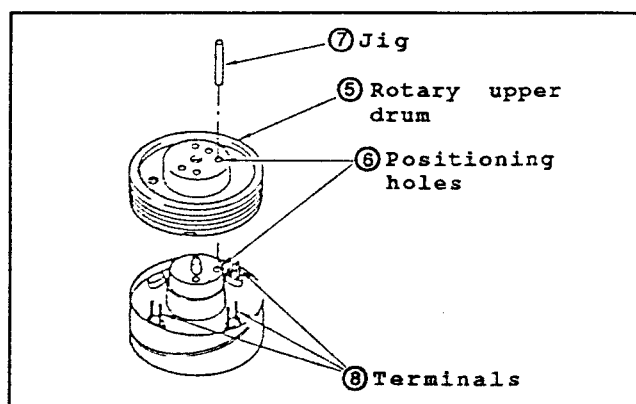

Fig.II-29
- (1) Clean the flange surface and the rotary upper drum ⑤ surface which faced the flange surface. Check that there is no dust particles and flaws.
- (2) Insert the jig ⑦ into the drum positioning holes of upper/lower rotary drum. (Fig.II-29)
*Note: At this time confirm that the terminals ⑧ come out from the holes of the rotary upper drum C.B.A..